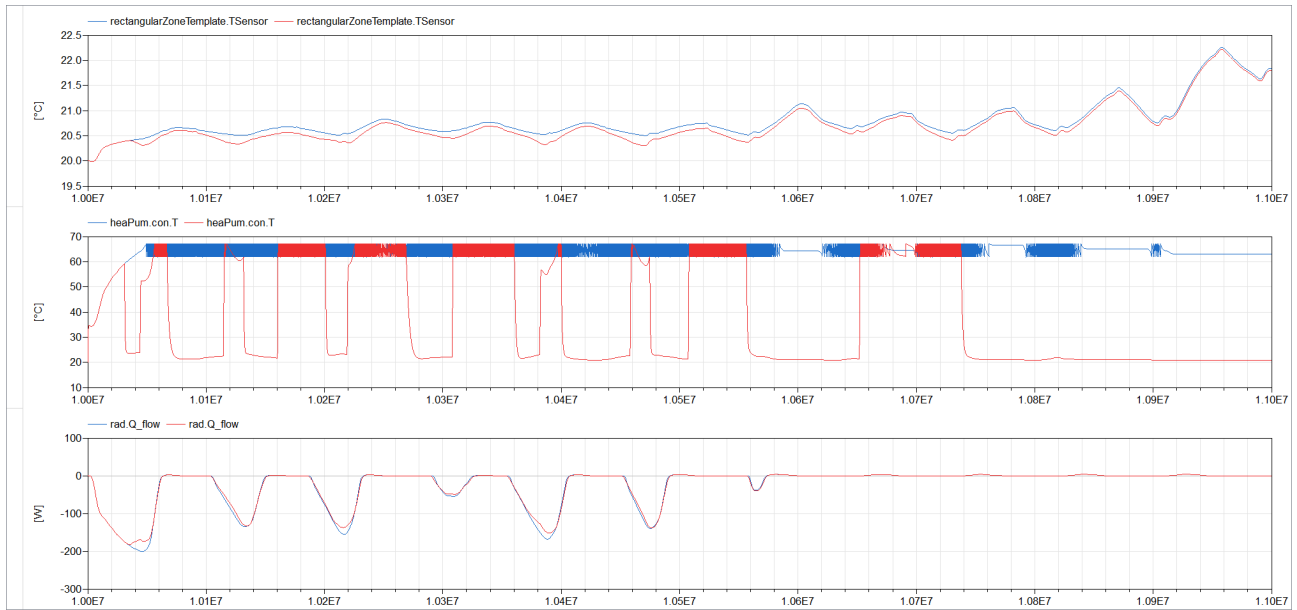

Figure 4: Comparison with (red) and without (blue) control for zone temperature, supply water temperature and radiator thermal power.
**Reference result** Figure 4 compares the results with the results without controller. We see that indeed, the supply temperature is reduced significantly. This causes the zone temperature to be slightly lower, up to about  $0.25^{\circ}\text{C}$ . The COP however increases significantly, from about 2.9 to about 3.1. Consequently, the energy use over the period is reduced from  $11.56\text{ kWh}$  to  $9.64\text{ kWh}$ . Note that this heating system configuration is still not efficient since the small flow rates still cause large temperatures to occur within the heat pump and thus cause a small COP. COP's of more than 5 are obtainable when using a bypass and a separate pump to charge the storage tank.